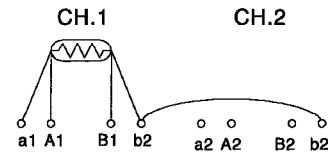

Fig. 2
- (2) Skip a terminal between a and b terminals of an unused channel (see Fig. 2 below).